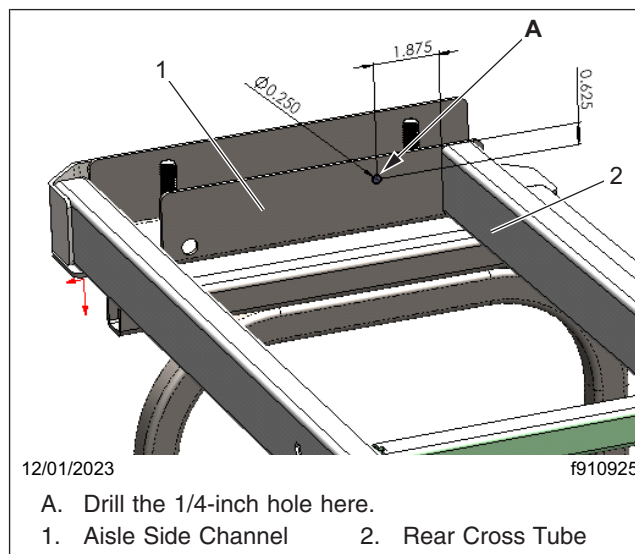

Fig. 3, Drilling the Hole in the Aisle Side Channel
6. Drill 1/4-inch hole in aisle side channel, 5/8 inch from the top edge, and 1-7/8 inch from the rear cross tube. See Fig. 3.